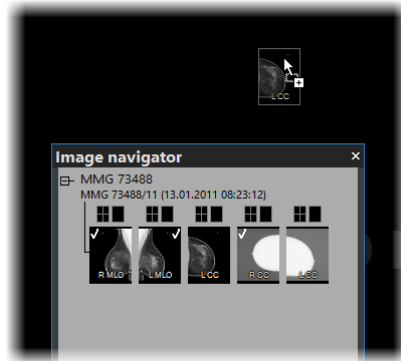

Figure 479 – Dragging an image from the study preview to the screen
- Use the drag-and-drop technique to drag the image from the study overview to the view in the mammography workspace on the left or right monitor (see Figure 479).